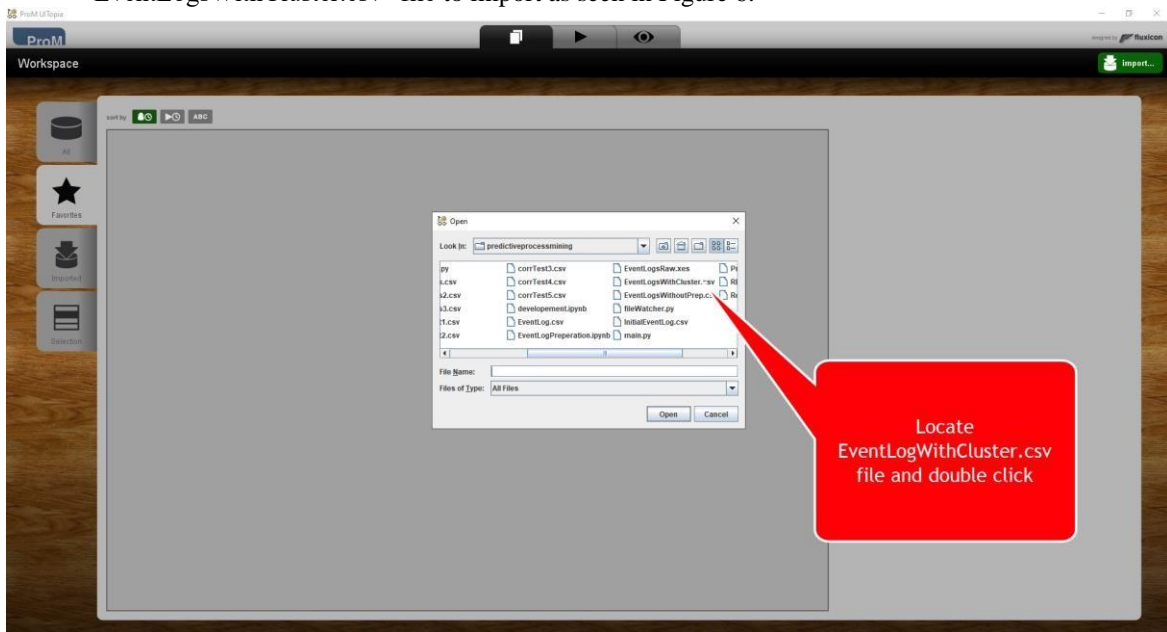

Figure 6 – Image showing how to locate prepared event log CSV file.
ProM is an open-source application dedicated to the analysis of event logs and the creation of process mining models. To start using ProM, the application must be installed on the research machine.⁵ A full guide on how to install the application and required plugins can be found in ⁶. Once ProM is installed and open, the prepared event logs can be installed by clicking the import button as seen in Figure 6.
2. A popup will appear displaying the machines local folders. Locate and select the “C:\Users\{{ username }}\Documents\PredictiveProcessMining\predictiveprocessmining\EventLogsWithCluster.csv” file to import as seen in Figure 6.